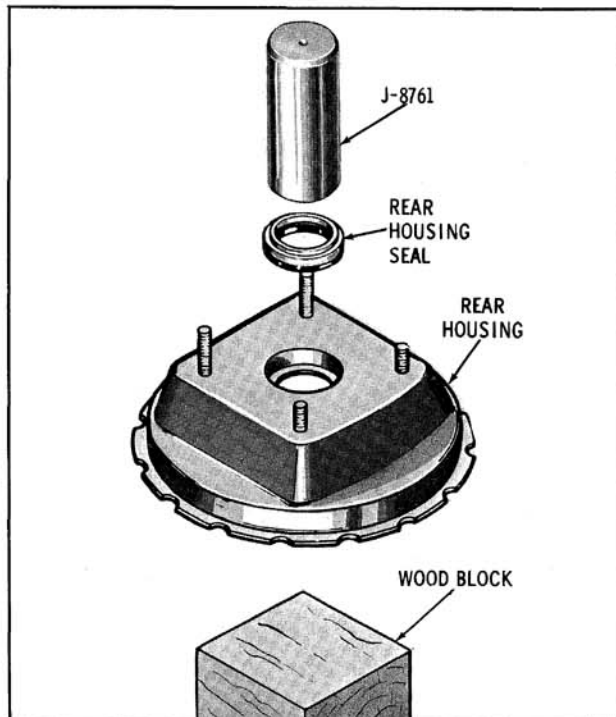

Fig. 11-51 Installing Rear Housing Seal
1. Coat a new rear housing seal with lubricant and install with Tool J-8761. (Fig. 11-51)